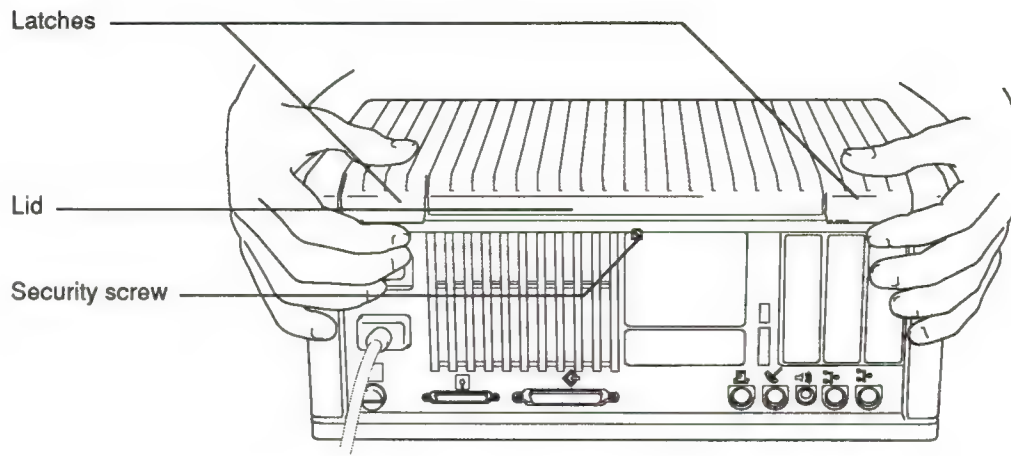

Figure 21, Removing the lid from the Macintosh IICX
- a. Using a Phillips screwdriver, loosen and remove the security screw that holds the lid to the computer. (It is at the top center of the rear panel, as shown in Figure 21.)